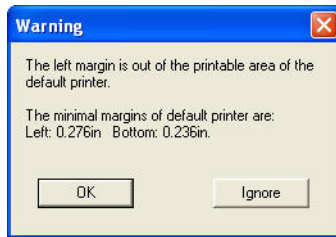

Figure 16-41. Warning Message
3. Click **OK** to display a message similar to the one in Figure 16-41.